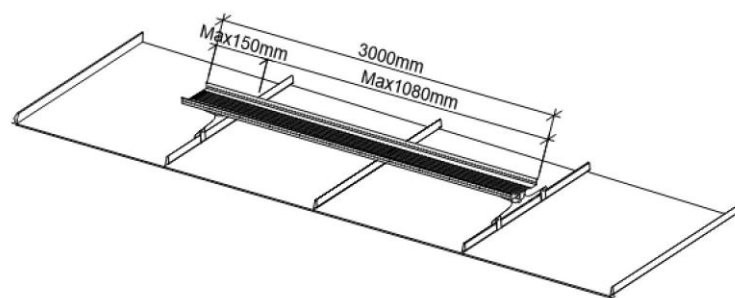

Figure 2.
- Install the RP-bracket plate, positioning it on one side of the roof seam such that the RP-bracket plate is in a vertical position (Figure 2).
- Place the RP-bracket on the other side of the seam (Figure 2).
- Each RP-bracket plate must be fastened together with the RP-bracket (Figure 2).
- Screw together using an M8x35 mm bolt screw, M8 nut, and washer (Figure 2).
- Tighten the screws such that the RP-bracket plate holds firmly on the roof material (Figure 2).
- Attach the tilt adjustment plate to the RP-bracket plate using 2 M8x14 screws with a nut (Figure 2).